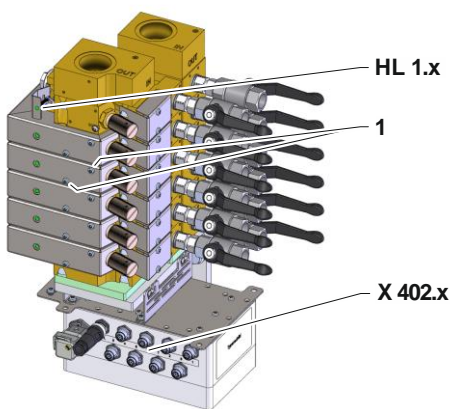

Fig. 1 Flow-5, autonom. module
- Disconnect the cable plug from the socket (X 402.x) → Fig. 1) at the evaluation unit.
- Disconnect screws (Label 1 → Fig. 1) and remove cover.
- Detach the light bulb (→ Fig. 1).
- Close 8 pin cable plug and connect it to the socket (X 402.x → Fig. 1).
- Connect new light bulb (HL 1.x → Fig. 1).
- Mount cover with screws (Label 1 → Fig. 1).